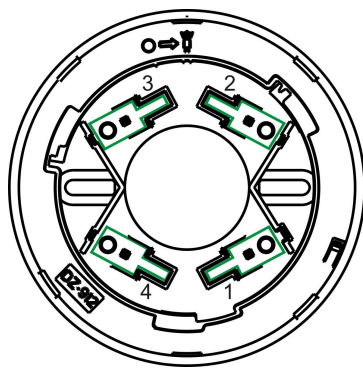

Fig.2
- 1) Fig.2 is the schematic diagram of the matched mounting base.